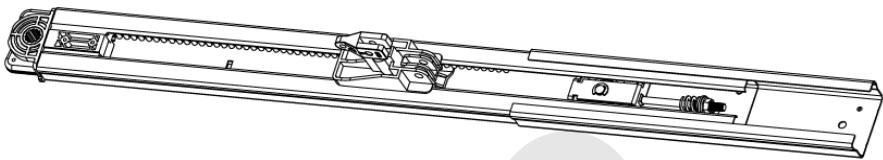

Fig 21
1. Steel track and a sleeve (Fig.21).